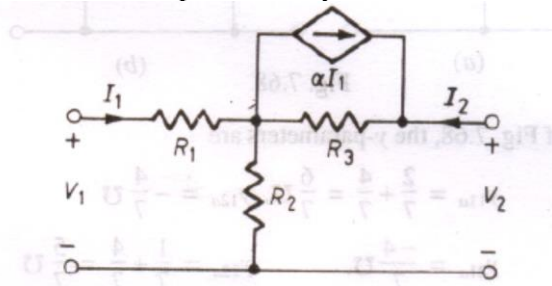

Fig. 7.71
3. For the network of Fig. 7.71 find the h-parameters. Hence find g-parameters. Find whether the network is reciprocal and symmetrical.